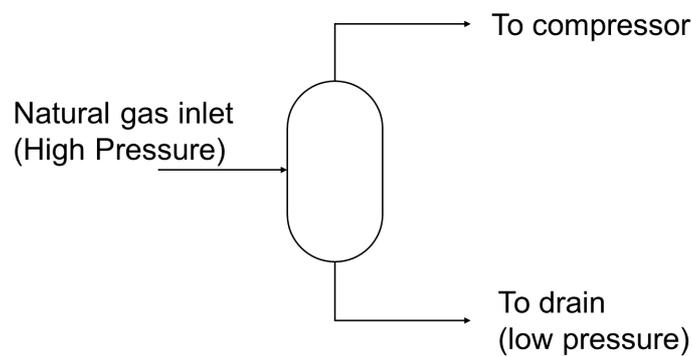

Figure Q1(a)
1. (a) You have been tasked with designing the control system for a compressor knock-out drum, which is used to remove condensed liquids (e.g., natural gas liquids, water) from a natural gas inlet stream (Figure Q1(a)). As the gas enters the drum, its velocity is reduced allowing the entrained liquid droplets to fall out and settle at the bottom of the vessel. Failure to fully remove the entrained liquids can cause damage to the compressor, leading to an extended plant shutdown. This may be caused by high inlet gas flowrates or high liquid level in the drum resulting in liquid entrainment in the gas stream. However, the flowrate of the high-pressure inlet gas (above design pressure of the vessel) is fixed by upstream operations. The liquid outlet is routed to a drain system with a design pressure significantly below the operating pressure of the drum.